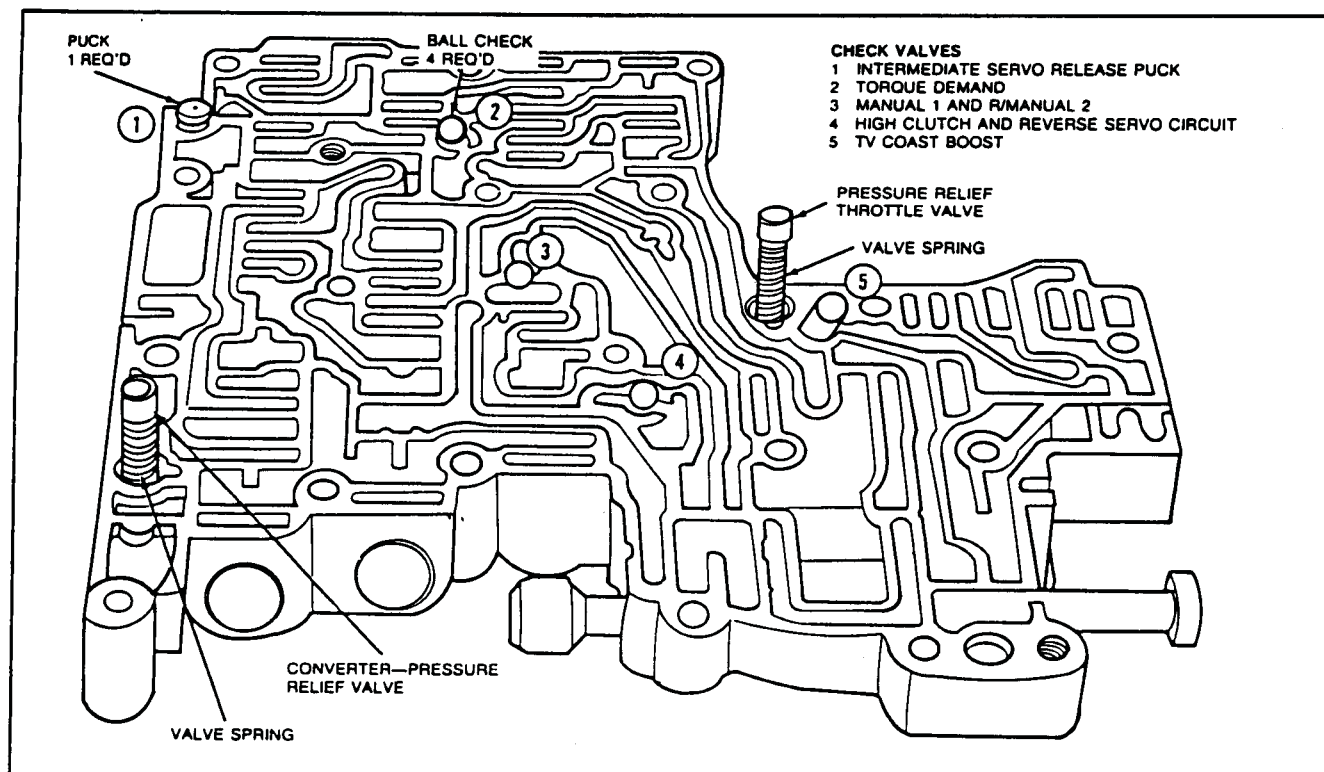

FIG. 39 Control Valve Body Assembly (Valves Installed)
2. Remove the four check ball valves and one check puck (Fig. 39).
3. Remove both relief valves and springs (Fig. 39).
7. Lubricate all parts with transmission fluid, then install the valves, springs, plugs and pins (Figs. 39 and 40).